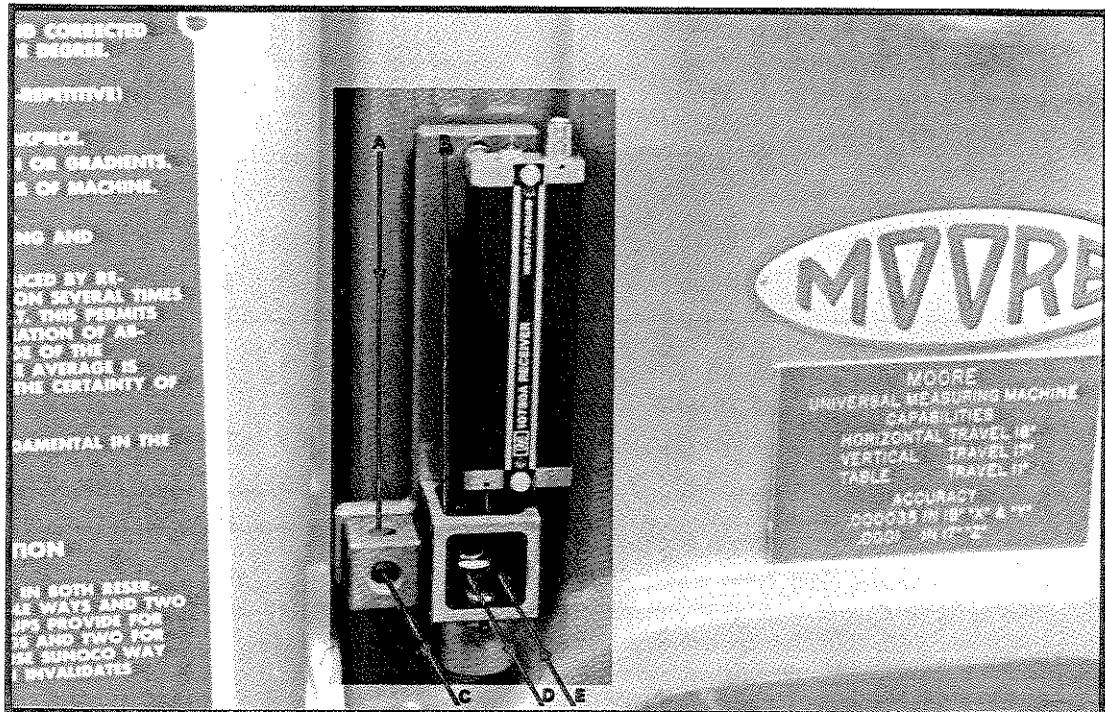
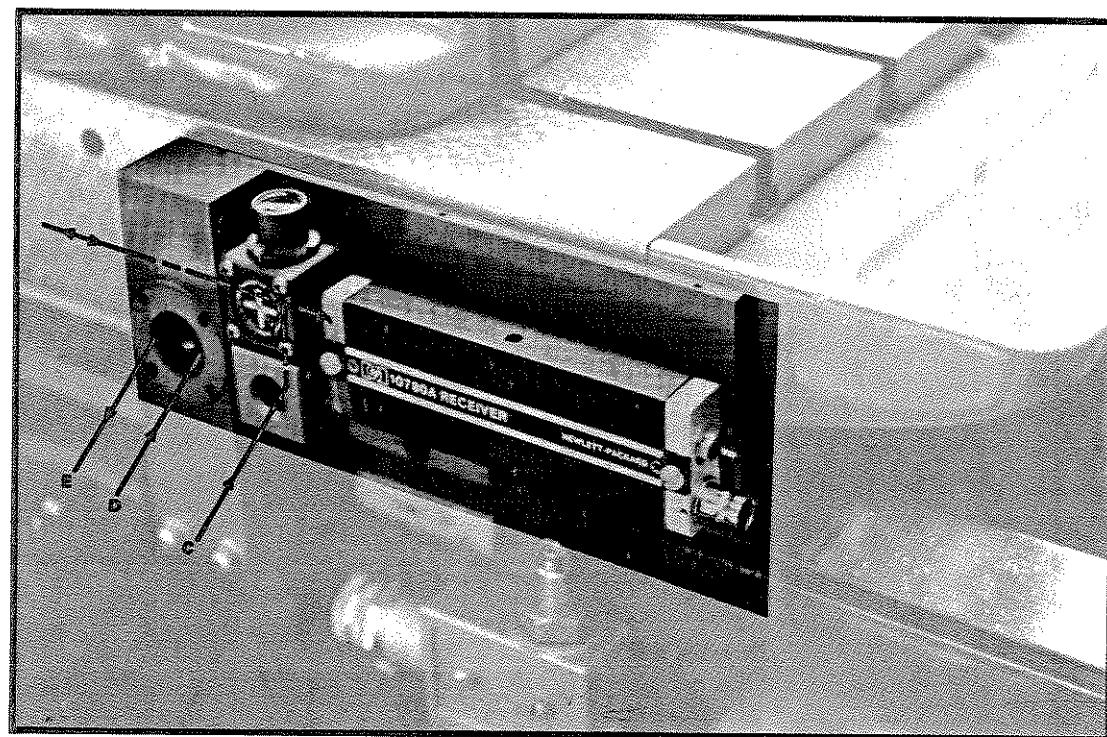

Figure 2-40. Y-Axis Installation
Figure 2-41. X-Axis Installation
In Figure 2-40 one of the two parallel light beams reflected from above enters the fixed Y-axis linear interferometer. There the measurement beam is deflected 90° to the moving Y-axis retroreflector (shown in Figure 2-41) attached to the Y-axis machine slide. The other laser beam reflected from above enters a beam bender next to the interferometer where it is deflected to the X-axis measurement optics.
*Figure 2-41 shows the Y-axis retroreflector and the X-axis measurement optics. All of the optics are mounted on a common bracket which is attached to the Y-axis. The laser beam reflected from the beam bender in *Figure 2-40* enters the beam bender shown below the single beam interferometer and is reflected vertically into the single beam interferometer. The measurement beam is then reflected horizontally along the X-axis to a retroreflector attached to the X-axis machine slide (not shown). Note the position of the X-axis receiver which is unique to the single beam interferometer.*